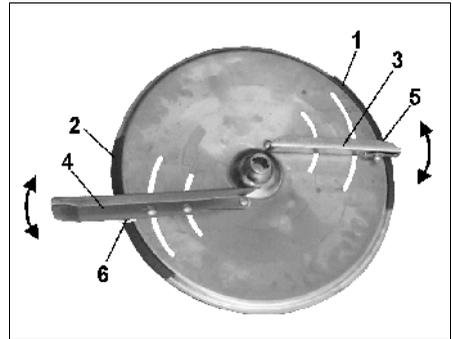

Fig. 38
For the accurate tool less setting of the individual spreading vane position two different unmistakable scales (Fig. 38/1 and Fig. 38/2) are arranged on every individual spreading disc
The scale (Fig. 38/1) with the figure from 5 to 28 refers to the shorter spreading vane (Fig. 38/3) and the scale (Fig. 38/2) with the figures from 35 to 55 refers to the longer spreading vane (Fig. 38/4).
Swivelling the spreading vanes to a higher figure on the scale (Fig. 38/1 or Fig. 38/2) results in an increase of the working width.
- Look for the scale figure for the position of the **short spreading vane** on scale (Fig. 38/1).
- Swivel the read off edge (Fig. 38/5) of the **short** vane (Fig. 38/3) on to the scale figure and **retighten the thumb nut firmly**.
- Look for the scale figure for the position of the **long** spreading vane on scale (Fig. 38/2).
- Swivel the read off edge (Fig. 38/6) of the **long** vane (Fig. 38/4) on to the scale figure and **retighten the thumb nut firmly**.